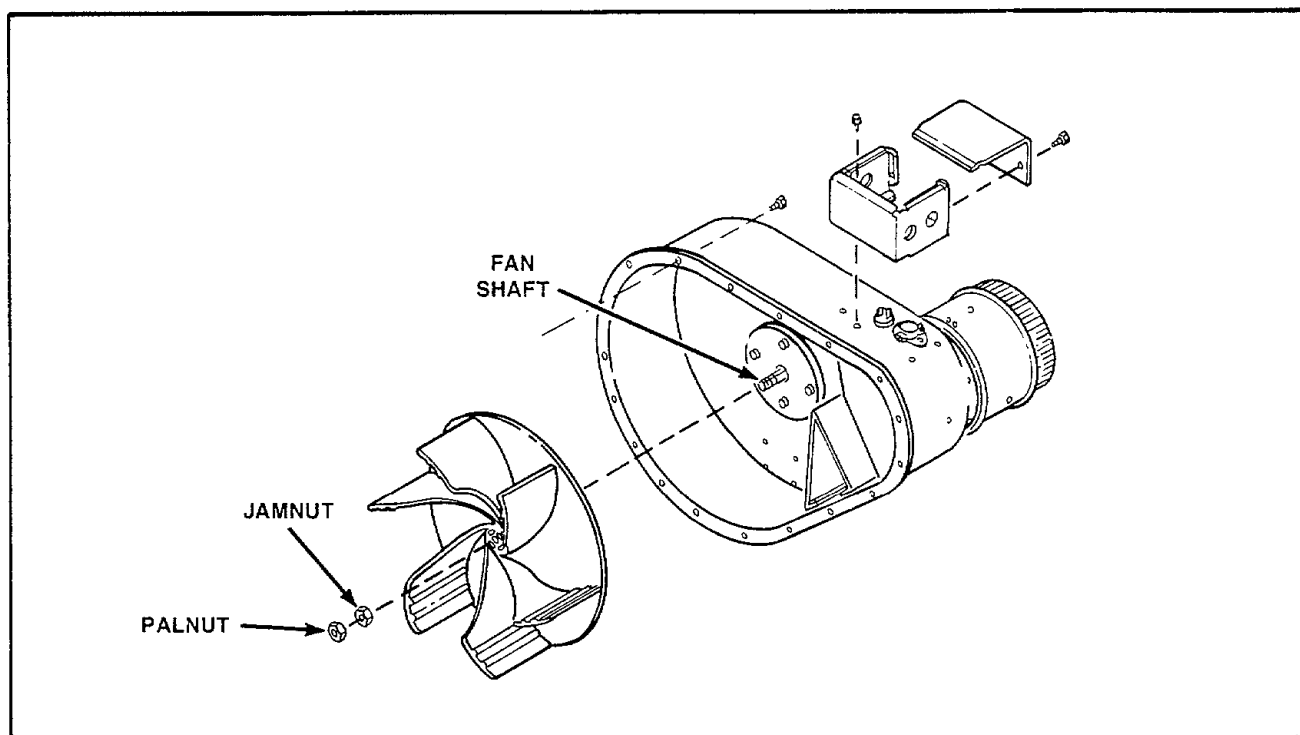

Figure 31
- h. With fan housing assembly off cabinet, hold fan while loosening palnut and jamnut, *Figure 31.*
**34. FAN BEARING, SHAFT AND HOUSING ASSEMBLY (Figure 31)**